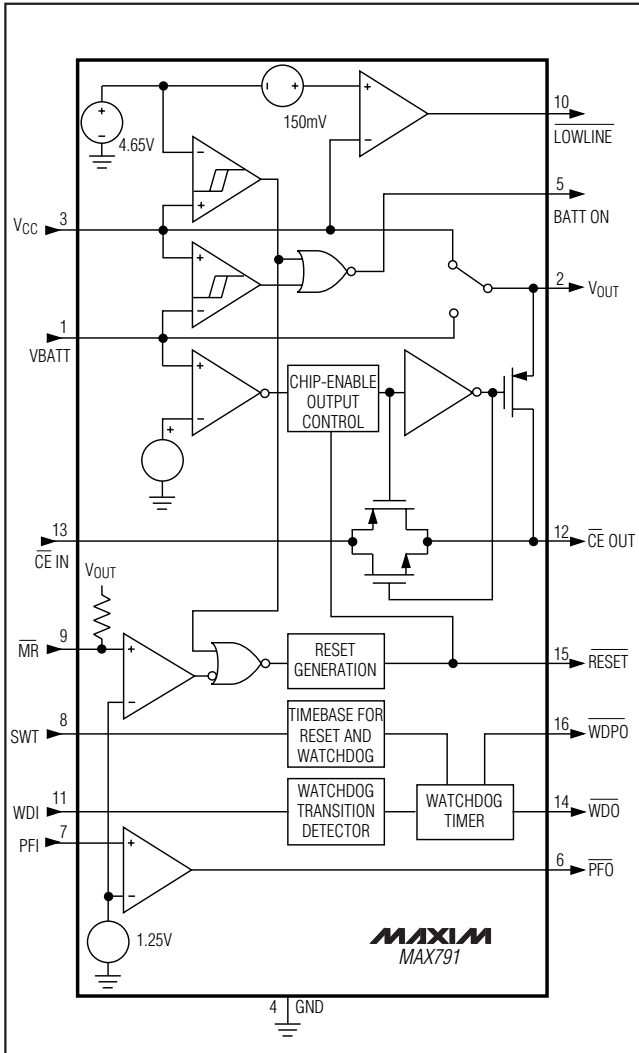

Figure 1. MAX791 Block Diagram
Many µP-based products require manual-reset capability, allowing the operator or test technician to initiate a reset. The Manual Reset Input (MR) can be connected directly to a switch, without an external pull-up resistor or debouncing network. It connects to a 1.25V comparator, and has a pull-up to V_{OUT} as shown in Figure 1. The propagation delay from asserting MR to RESET asserted is 4µs typ. Pulsing MR low for a minimum of 15µs resets all the internal counters, sets the Watchdog Output (WDO) and Watchdog-Pulse Output (WDPO)
The MAX791 provides internal gating of chip-enable (CE) signals to prevent erroneous data from corrupting the CMOS RAM in the event of a power failure. During normal operation, the CE gate is enabled and passes all CE transitions. When reset is asserted, this path becomes disabled, preventing erroneous data from corrupting the CMOS RAM. The MAX791 uses a series transmission gate from the Chip-Enable Input (CE IN) to CE OUT (Figure 1).